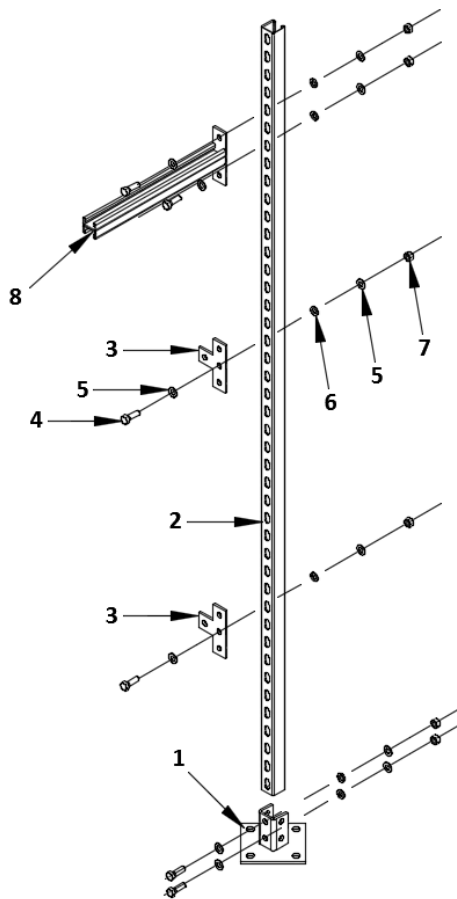

Figure 59 - Cylinder Upright Assembly
- Step 2. Assemble the remaining upright components as shown in the diagrams on the next page. Attach the tee plates and manifold bracket to the upright at heights indicated on Figure 59.
- Step 9. Mount the manifold support bracket to the upright using suitable anchors provided by others. See Figure 59 for top of bracket mounting height.